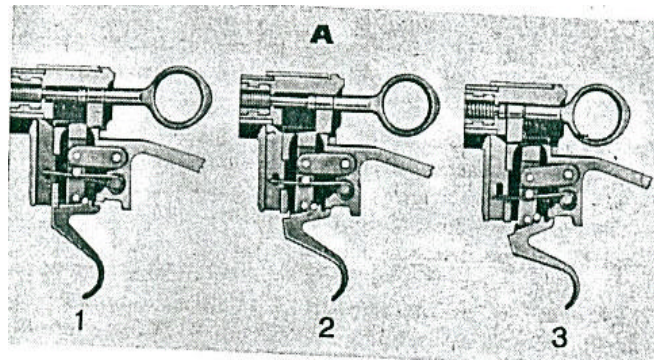

Fig. 17
1. Trigger Mechanism and Rifle Discharge (Fig. 17)
- 11 When the weapon is ready to fire, the bolt is closed and locked, the trigger mechanism is armed (normal position. See Fig. 17)